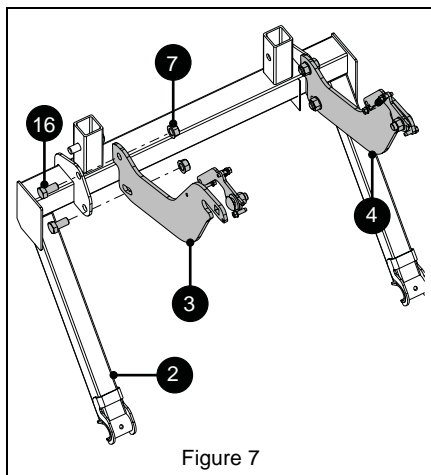

Figure 7
4. Install left bagger arm (Item 4) onto bagger post (Item 2) with two hex bolts (Item 16) and two top-lock flange nuts (Item 7). Do not tighten. Repeat on right bagger arm (Item 3). See Figure 7.